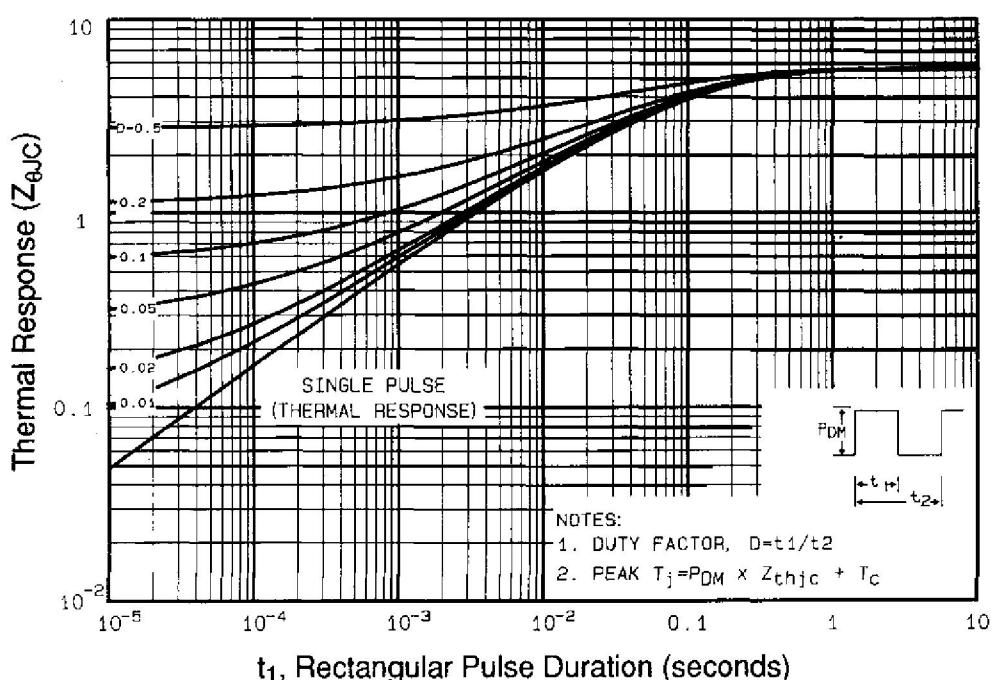

Fig 11. Maximum Effective Transient Thermal Impedance, Junction-to-Case
① Repetitive rating; pulse width limited by max. junction temperature (See Figure 11)
③ $I_{\text{SD}} \leq 10\text{A}$, $dI/dt \leq 90\text{A}/\mu\text{s}$, $V_{\text{DD}} \leq V_{(\text{BR})\text{DSS}}$, $T_J \leq 175^\circ\text{C}$ ⑤ $t=60\text{s}$, $f=60\text{Hz}$ ② $V_{\text{DD}}=25\text{V}$, starting $T_J=25^\circ\text{C}$, $L=1.2\text{mH}$